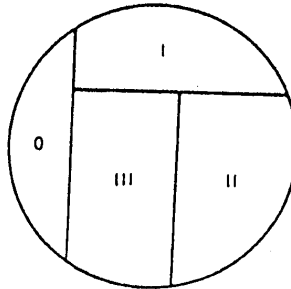

Figure 8-12: Sector markings on the same petri dish turned right side up.
- 2- Next turn the marked plate right side up. The markings will be reversed and will look like those in Figure 8-12.